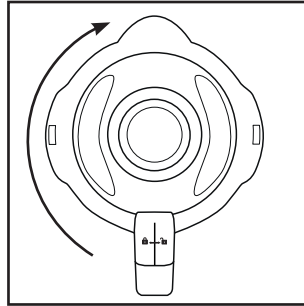

Fig. 2
- 4) Press the lid ② firmly down onto the blender ③. Close the lid ② by turning it clockwise to position  until it audibly engages (see Fig. 2). Ensure that the pouring spout on the blender ③ is closed. The motor cannot start until the lid ② is fitted flush.